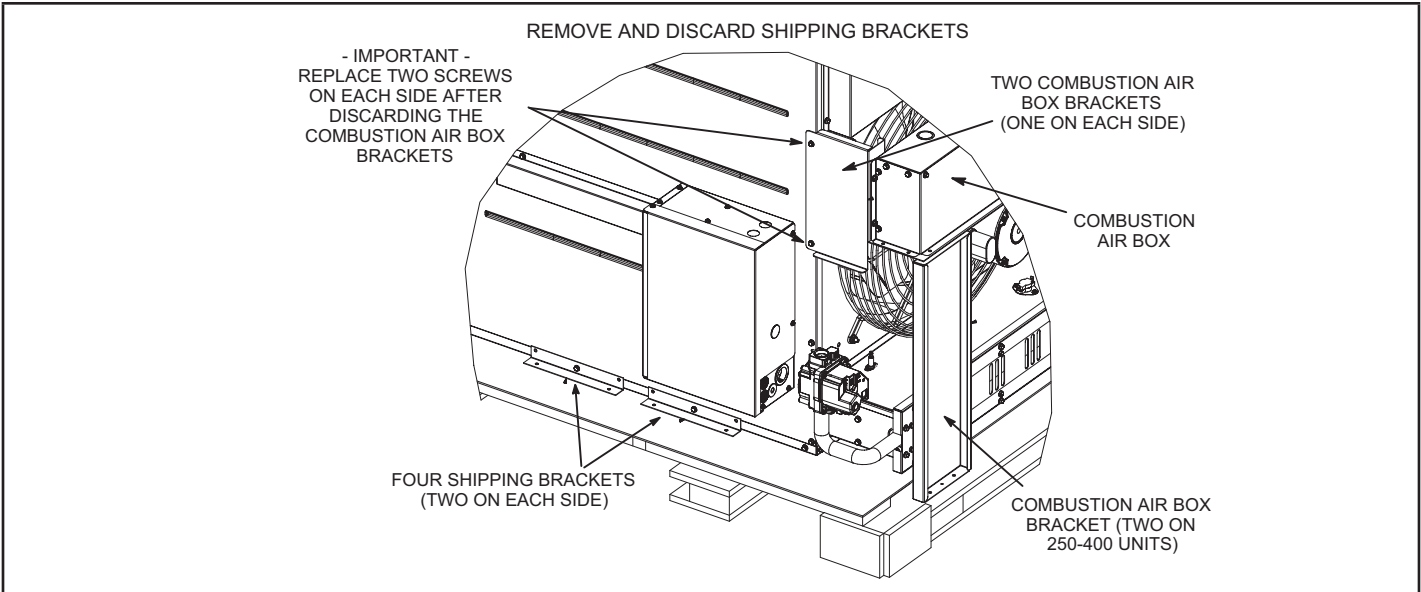

FIGURE 2
- 8 - Remove and discard the shipping brackets. Replace two screws on each side as shown in figure 2.